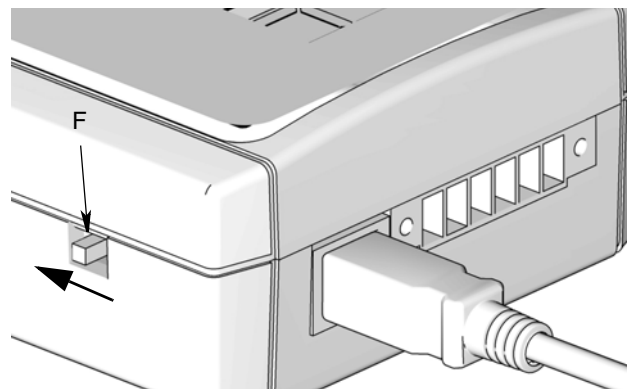

FIG. 6
3. Be sure the Selection Switch (F) is set to the correct position for the USB connection. Refer to FIG. 6 for the switch settings.